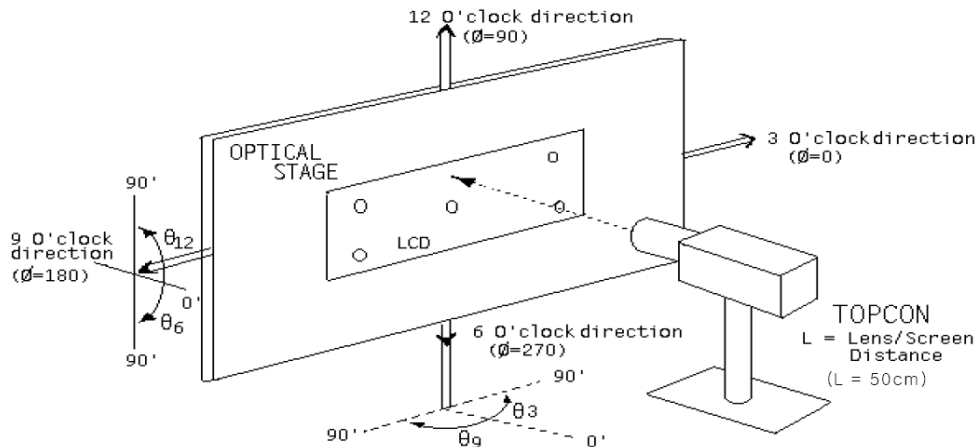

Figure 9
Note (2). Contrast measurements shall be made at viewing angle of  $\theta = 0^\circ$  and at the center of the LCD surface. Luminance shall be measured with all pixels in the view field set first to white, then to the dark (black) state. (See Figure 9) Luminance Contrast Ratio (CR) is defined mathematically.